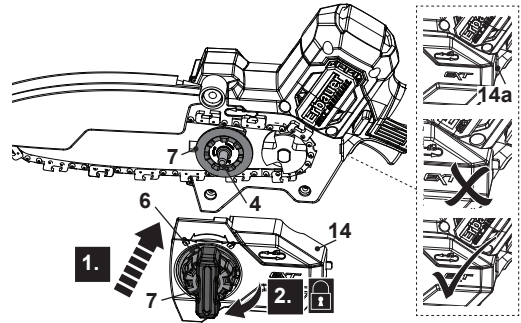

Fig. 6
7. Align and place the garden saw cover (14) over the mounting bolt (4), then slightly tighten the locking wheel (7) clockwise (Fig. 6, steps 1, 2). Ensure that the spigot (14a) engages correctly in the slot. Do not tighten the locking wheel (7) completely as saw chain tensioning is required first.
8. Align and place the garden saw cover (12) over the mounting bolt (6); Flip the locking ring (11a) up and hold it, then slightly tighten the locking wheel (11) clockwise (Fig. 6, steps 1, 2, 3). Ensure that the spigot (12a) engages correctly in the slot. Do not tighten the locking wheel (11) completely as saw chain tensioning is required first.